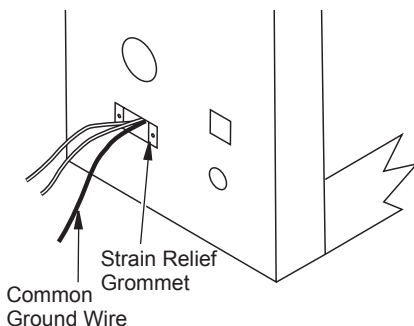

Figure 11 - Wiring Through Outer Surround
2. Connect the 18 ga. wires coming through strain relief grommet on side of appliance's outer wall to standard household 120 VAC current through the wall switch (not supplied), as shown in Figure 11. For more detail, see *Wiring Diagrams*, page 15.